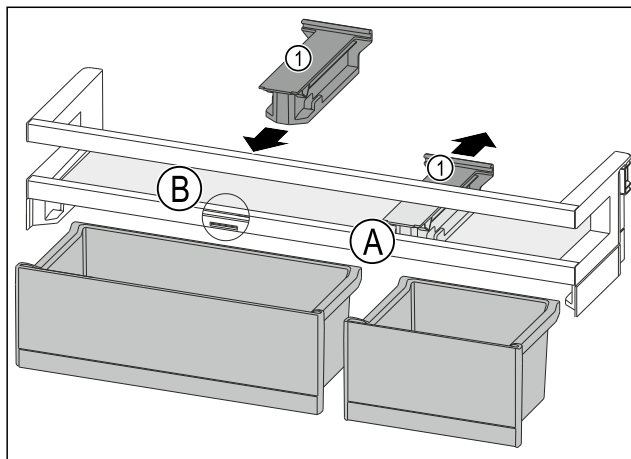

Fig. 107
- ▶ Pull off the retaining part Fig. 107 (1) in position Fig. 107 (A) downward.
- ▶ Insert the retaining part Fig. 107 (1) in position Fig. 107 (B).